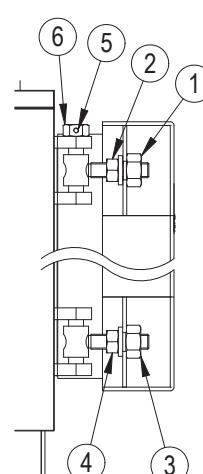

fig. 10
5.6.2 Para modelos PREXTERM RSW 720N÷1060N (Fig. 10)